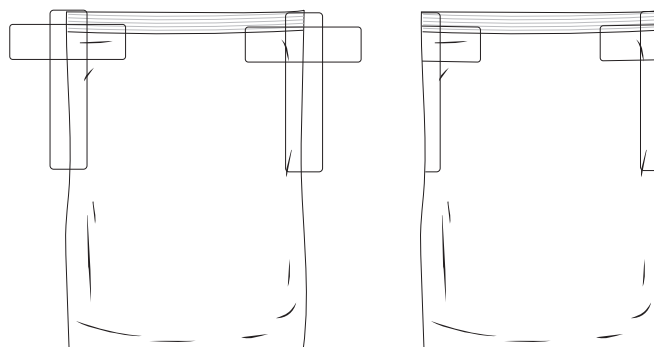

Figure 3.
24. Transparent tape can be used around the edges to prevent leaking (see Figure 3).